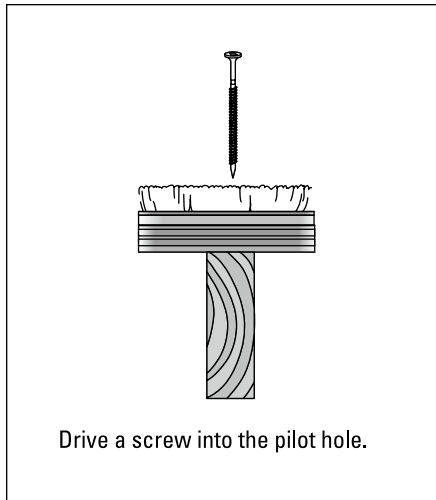

FIGURE 4-11:
- 4. Drive a construction screw into the pilot hole, through the subfloor, and so on. (See Figure 4-11.)**